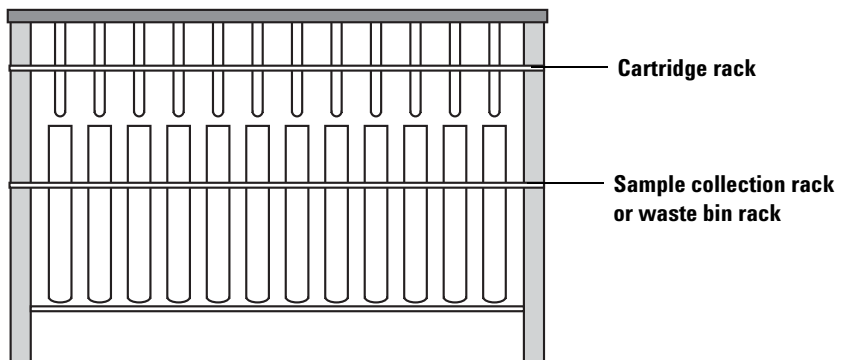
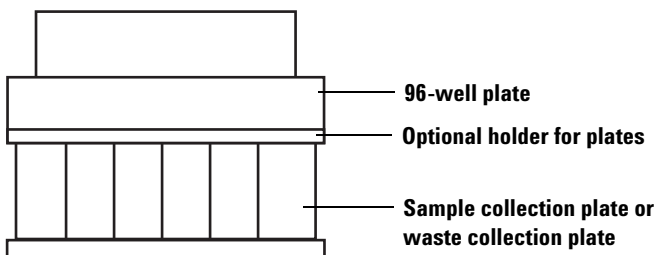

Figure 9 Agilent positive pressure manifold 48 processor stack
Figure 10 Agilent positive pressure manifold 96 processor stack
- 2 Assemble the stack (see Figure 9 and Figure 10).